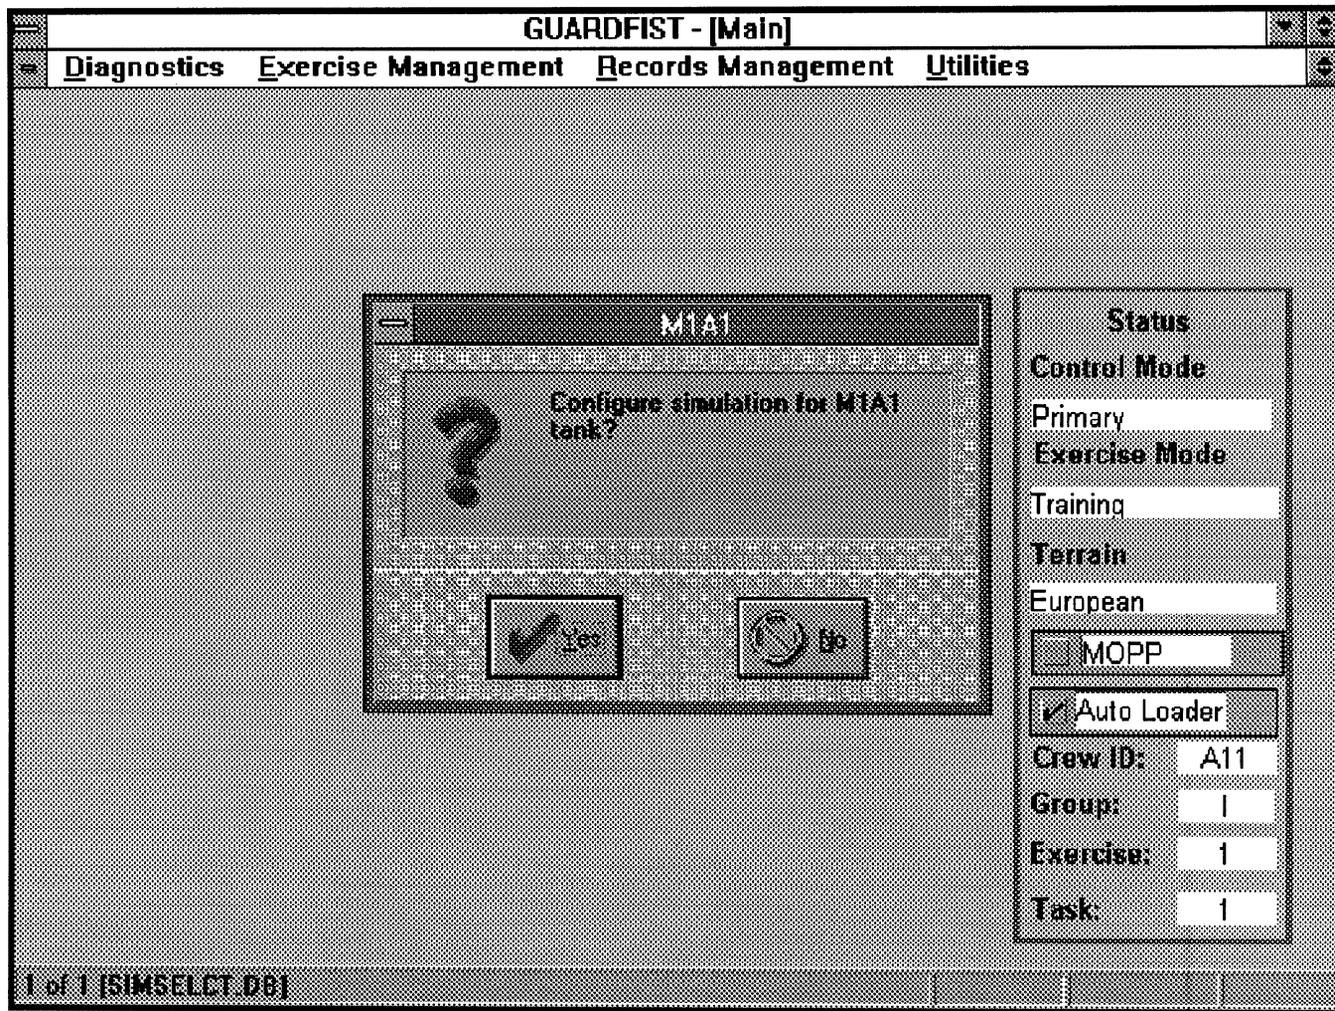

Figure 2-87. M1A1 Screen
2.6.5.2 **M1A1 Screen.** At the MI Screen, click on the No button. The M1A1 screen, Figure 2-87, displays.